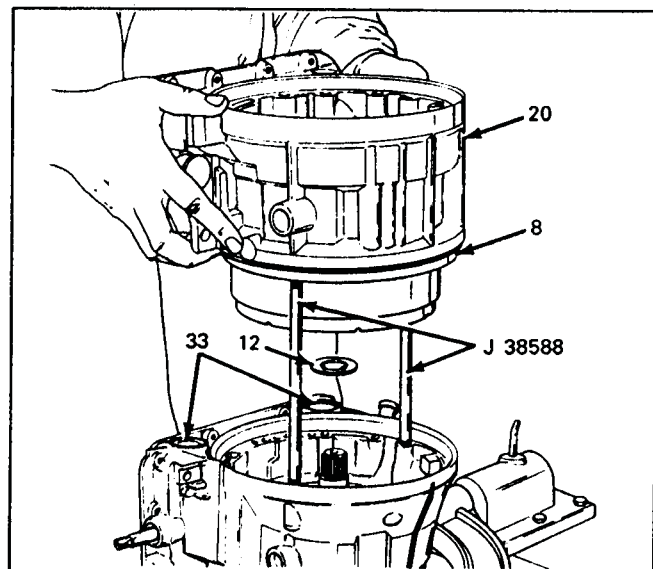

Figure 101
20. Install the pre-selected selective thrust washer onto the pre-assembled adapter case housing, and retain with petrolatum (See Figure 101).
21. Install two guide pins J-38588 into the main case, as shown in Figure 101.
22. Install two "O" rings into the main case in positions shown in Figure 101.
23. Position the pre-assembled adapter case housing over the guide pins and lower onto the main case (Figure 101).